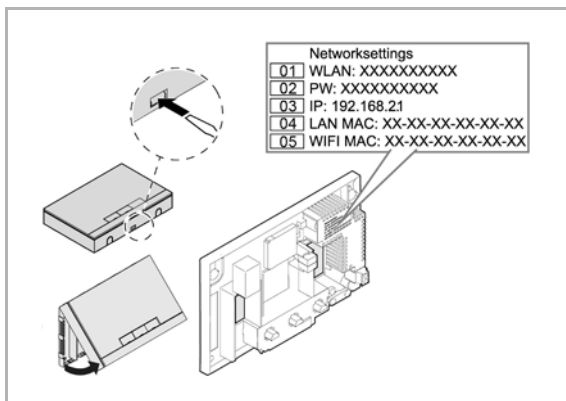

Fig. 17: Text on the interior side of the System Access Point
2. Connect the PC with the WLAN of the System Access Point (SSID: SysAPXXXX). Enter the password (see text on the interior side of the power adapter in the System Access Point; open the cover for access, see Fig. 17).